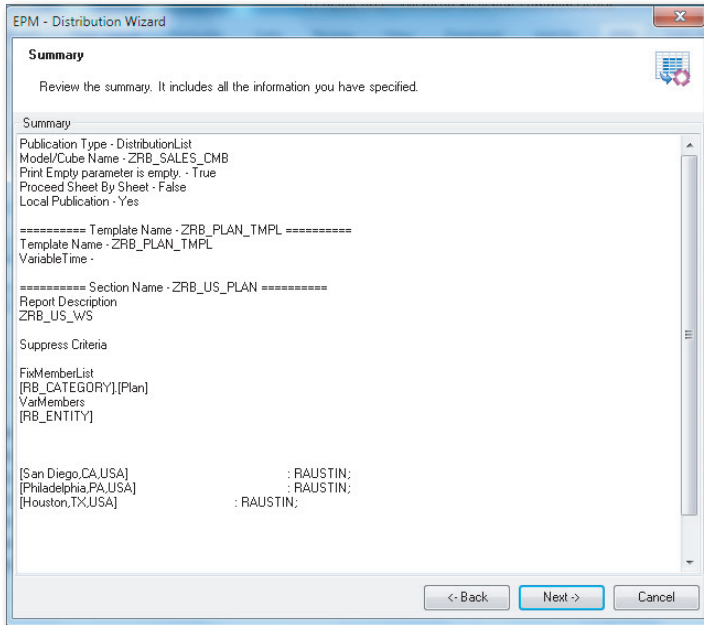

Figure 7.25 Offline Distribution Wizard— Part D
5. The next dialog box confirms the reports that will be created and the selections that will be used in creating the reports (Figure 7.25). Click on the NEXT button to continue.